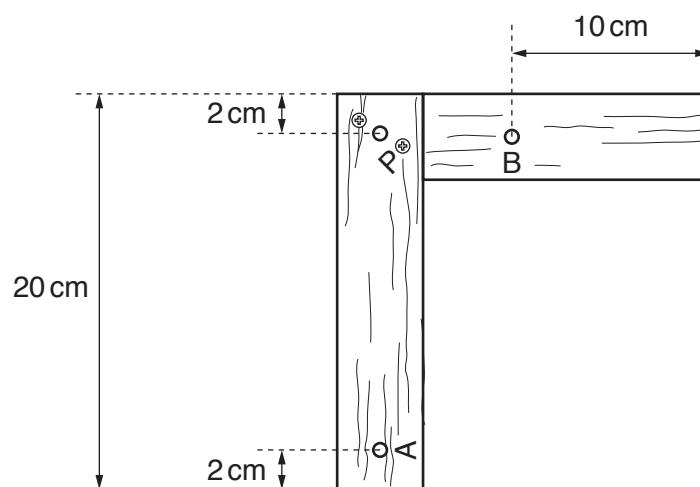

Fig. 2.1
1. The L-shaped beam could be made by joining together two pieces of wood (20 cm × 4 cm × approx. 1 cm) as shown in Fig. 2.1. Alternatively, two pieces of thick corrugated card (20 cm × 4 cm × approx. 4 mm) can be used. The cardboard from sturdy packing boxes is suitable.